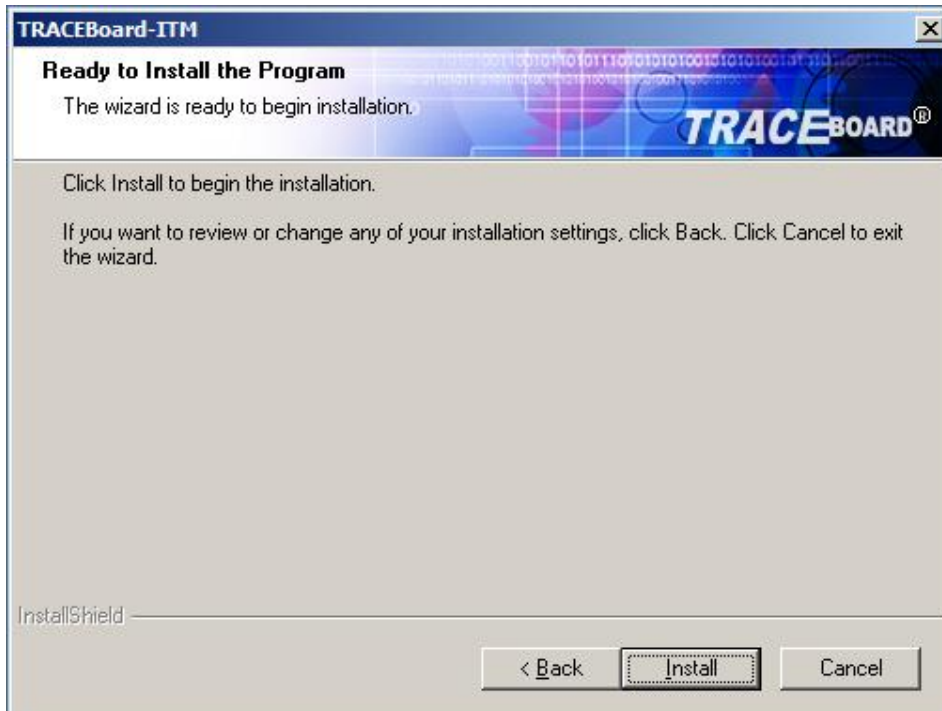

Fig 2.1.4
5. Click install to continue, see fig 2.1.4